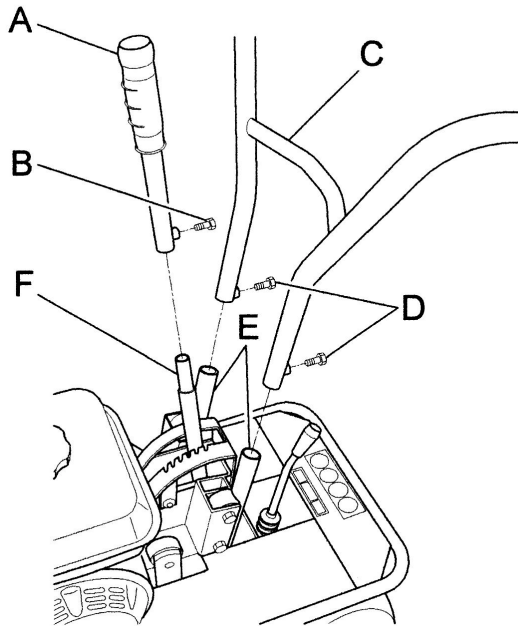

Fig. 3
-Lift the handlebar (Fig. 3 Rif. C) and insert it in the supports shown in Fig. 3 rif. E. Select the required cutting height and secure the setting using the screws provided (Fig. 3 ref. D).
- Fit the end part of the cutting height adjustment lever (Fig. 3 Ref. A) into its relative support (Fig. 3 ref. F) and secure using the screw provided (Fig. 3 Ref.B).
WARNING. During operation the lawn and turf are cut into strips. Should the cutter's wheels skid during use it is advisable to adjust the cutting height using the special lever (Fig. 3, ref.A). If this operation does not prevent this occurrence check the state of the terrain. If it is too dry it should be wetted so that the blade encounters a slight resistance, thus making cutting operations easier.